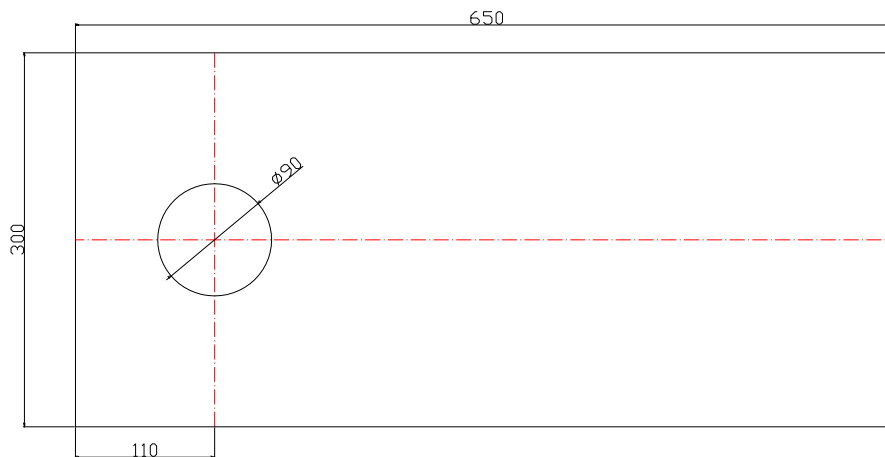

Fig 2
- 2.3.1 The table on which the instrument is placed should be stable (see Fig. 2, the external dimensions are for reference only) and adjusted to the level, the level is not more than 1m/mm, and a $\phi 90$ mm hole should be opened on the suitable position of the table for the lifting and lowering of the wire rod.